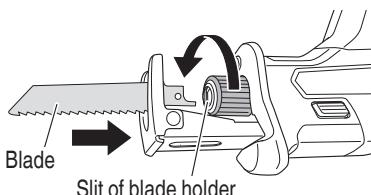

Fig. 7
- Turning the blade holder in the direction indicated by the arrow, insert the blade all the way into the small slit of the blade holder. (Fig. 7)